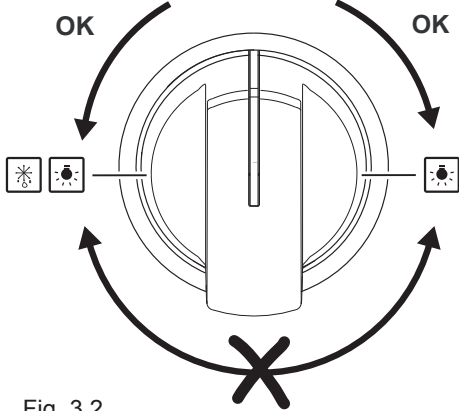

Fig. 3.2
The oven light and the fan motor are controlled by a switch knob on the control panel (fig. 3.2). To light up the oven lamp turn the knob counterclockwise to ☀️ position. To operate the fan motor turn the knob clockwise to 🌀☀️ position. In this setting also the oven lamp is lighted.
**IMPORTANT NOTE:** during ignition of the oven burner the fan motor shall be switched off (light and fan control knob in I Off position - Fig. 3.2).
After lighting the oven burner switch on the fan motor by turning the LIGHT & FAN control knob (fig. 3.2) on   position.
With the oven burner control knob in **I Off** position turn the LIGHT & FAN control knob (fig. 3.2) on   position.